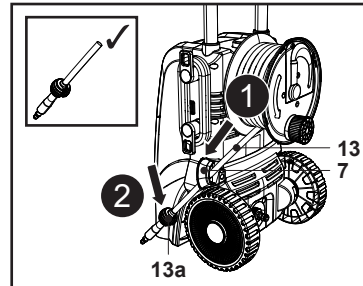

Fig. 4
2. Guide the pressure hose (13) through the hose guide (7), then attach the retaining ring (13a) at the tip (Fig. 4, steps 1, 2).